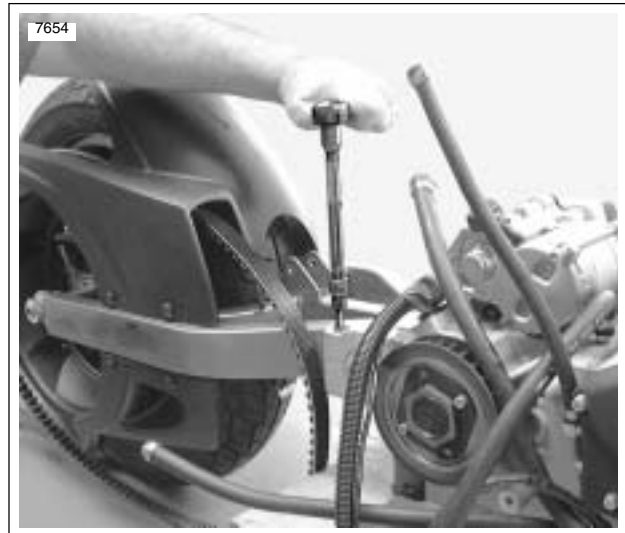

Figure 3-23. Pinch Bolt
5. See Figure 3-23. Install swingarm pinch bolt.